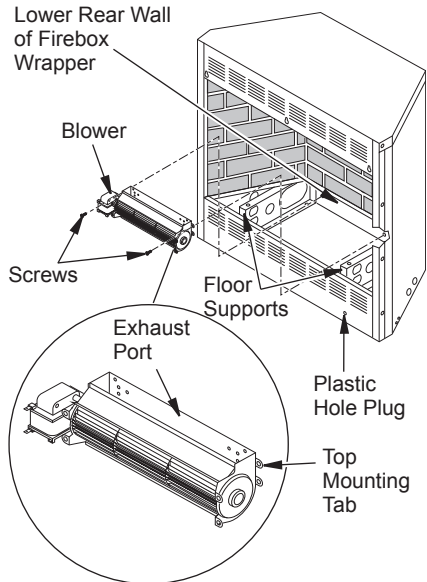

Figure 9 - Mounting Blower to Firebox
2. Place the blower against lower rear wall of firebox wrapper with the exhaust port directed upward. Align the holes in top mounting tabs of blower with holes in wall of wrapper (see Figure 9). Using 2 screws provided, mount blower and tighten screws securely.
4. Locate the plastic hole plug installed in the 3/8" diameter opening in the lower right side of the firebox front panel (see Figure 9). Remove the plastic plug and discard.